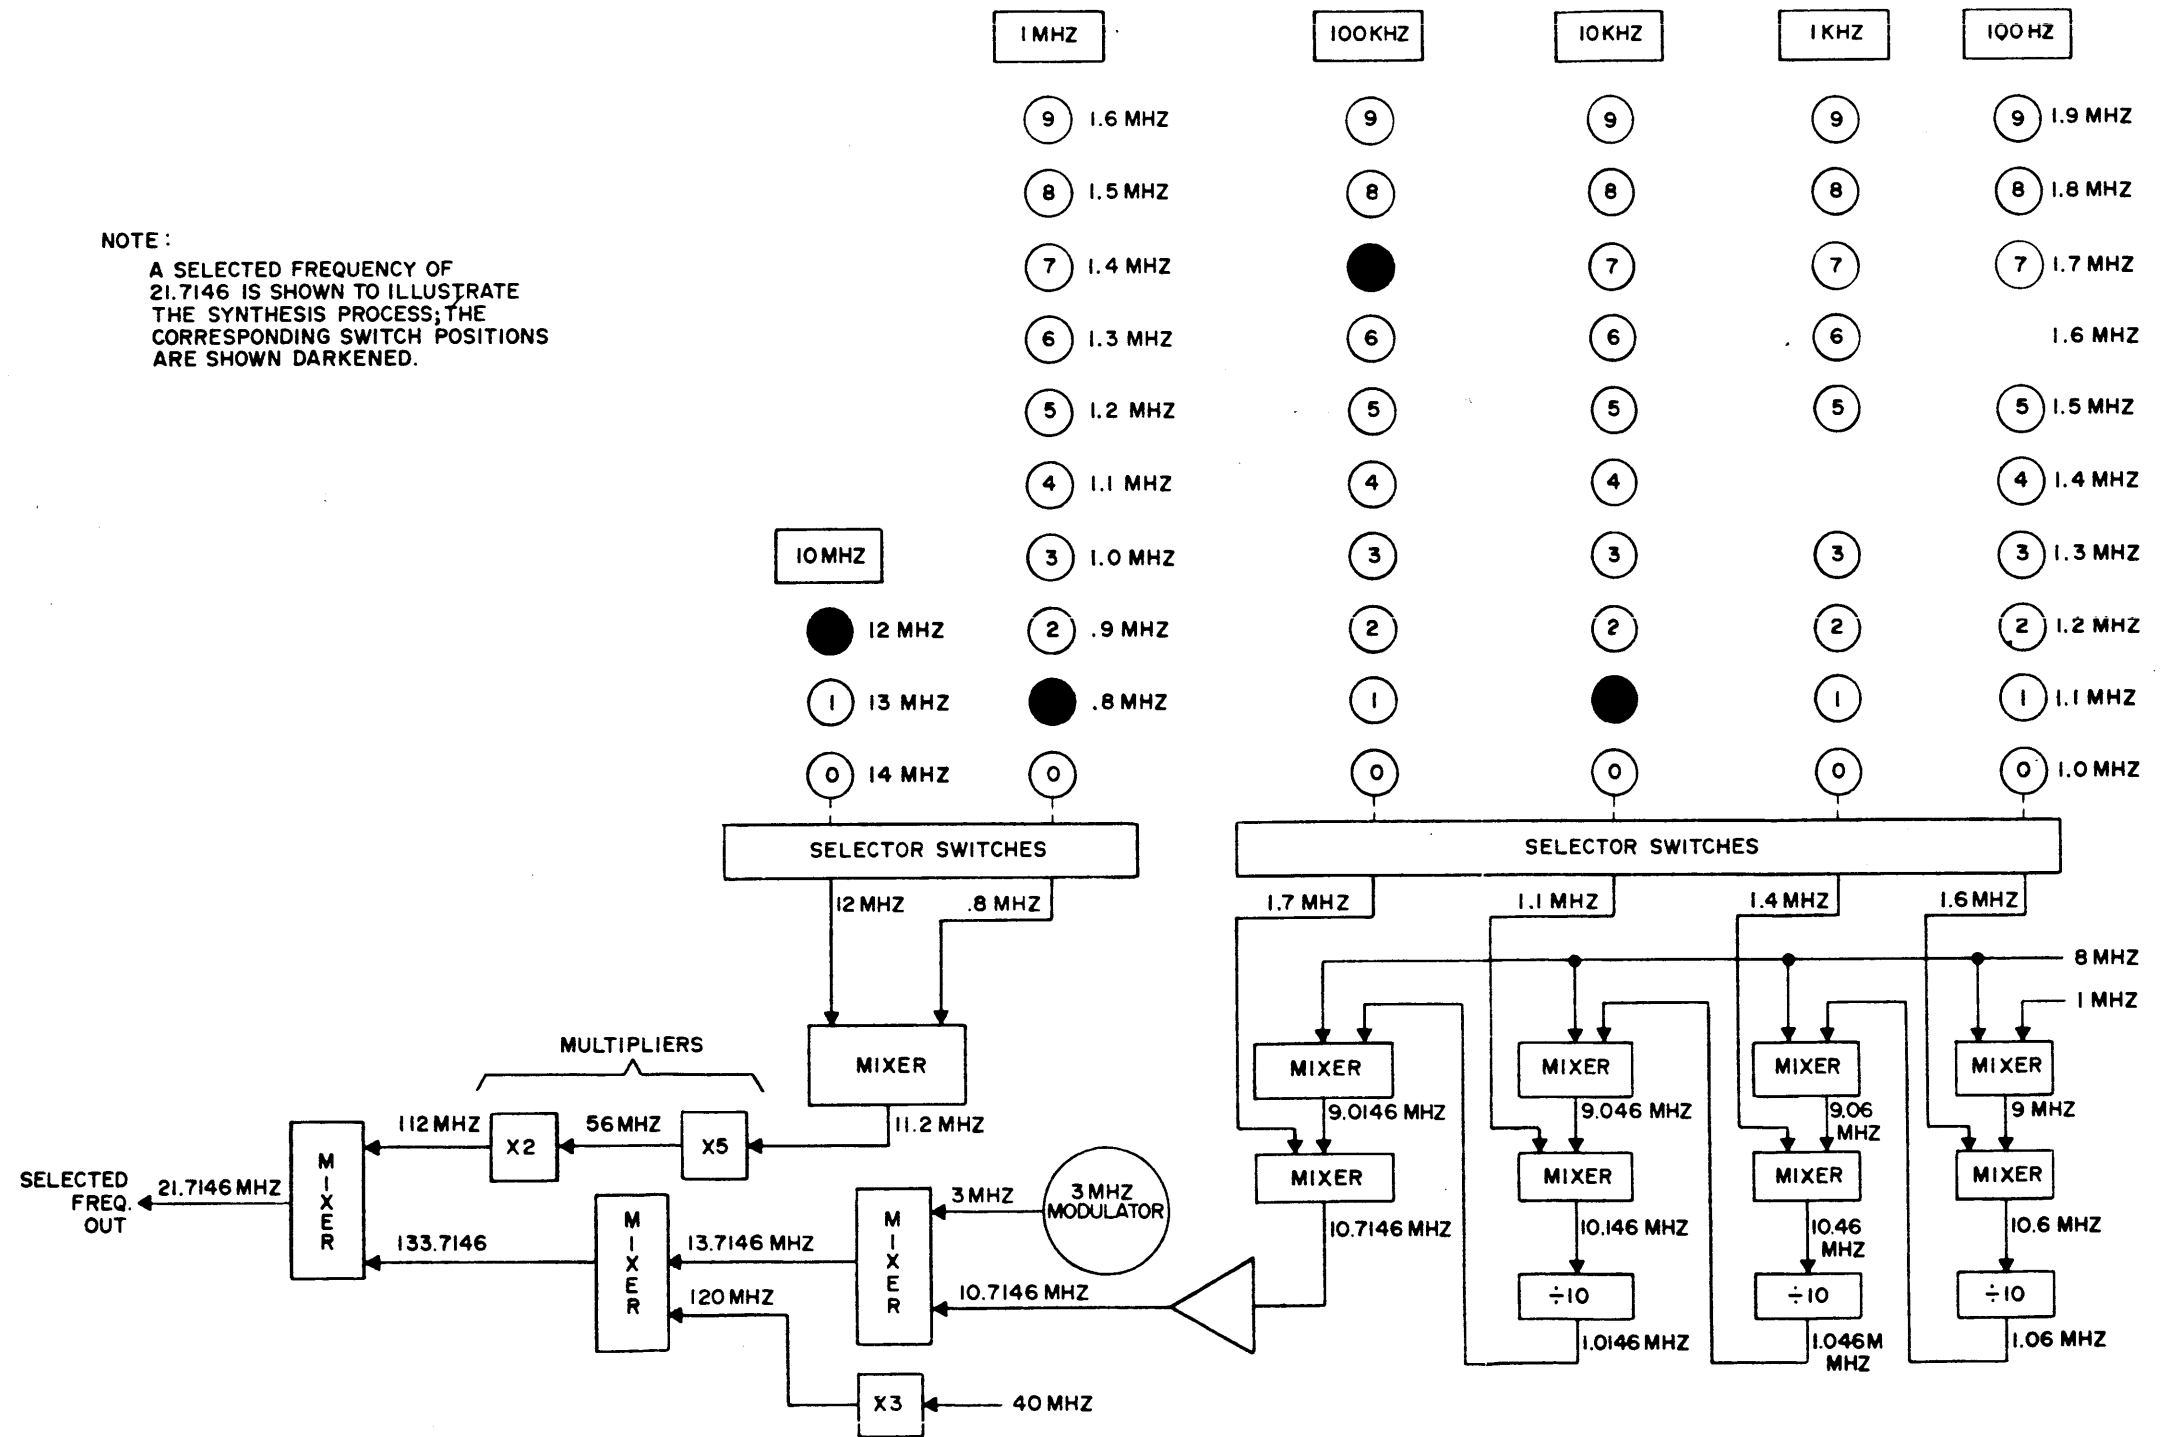

Figure 4-1. Frequency synthesis example
4.2.1 Six front-panel frequency selector switches provide selection of the carrier frequency in 100Hz increments from 1.6 to 29.9999MHz. The synthesizer uses a precision 1MHz signal from which are developed other basic signal frequencies, which in turn are used to synthesize the RF carrier output. The basic signal frequencies are applied to mixer-divider and mixer-multiplier circuits to derive discrete RF frequencies. A typical frequency synthesis is shown in Figure 4-1 to illustrate the synthesis process. Figure 4-1 illustrates a selected frequency of 21.7146MHz. The appropriate switch positions are shown darkened on the diagram. The basic 8MHz signal is mixed with the basic 1MHz signal to produce 9MHz. This is then mixed with the 100Hz switch-selected 1.6MHz signal to produce 10.6MHz which, when divided by 10, produces 1.06MHz. The "6" is the least significant digit of the desired frequency. The 1.06MHz frequency is then mixed with the basic 8MHz signal to produce 9.06MHz. This is mixed with the 1KHz switch-selected 1.4KHz signal to produce 10.46MHz which, when divided by 10, produces 1.046MHz. The "4" is the next significant digit of the desired frequency. The 1.046MHz frequency is then mixed with the basic 8MHz signal to produce 9.046MHz. This is mixed with the 10KHz switch-selected 1.1MHz signal to produce 10.146MHz which, when divided by 10, produces a 1.0146MHz signal. The "1" is the next significant figure of the desired frequency. The 1.0146MHz is then mixed with the basic 8MHz signal to produce 9.0146MHz. This is mixed with the 100KHz switch-selected 1.7MHz signal to produce a 10.7146MHz signal.
modulation frequency to produce a 13.7146MHz frequency. This 3MHz frequency is varied by the selected modulation to provide carrier frequency deviations in response to the selected modulation mode. However, for this discussion only, the center 3MHz frequency is described. The 13.7146MHz frequency is mixed with a 120MHz basic signal derived by multiplying the 40MHz basic signal by three. The output of the mixer will then be 133.7146MHz. The 1MHz switch-selected 0.8MHz signal is mixed with the 10MHz switch-selected 12MHz signal to produce an 11.2MHz frequency. This is first multiplied by five to produce 56MHz, and then multiplied by two to produce 112MHz. The 112MHz frequency is then mixed with the 133.7146MHz frequency to produce the final 21.7146MHz carrier signal. The 10MHz selector switch selects a 14MHz basic signal for the "0" digit position which is used to derive the 01MHz to 10MHz range of frequencies. A 13MHz basic signal is selected in the "1" digit position of the 10MHz selector to derive the 11MHz to 20MHz range of frequencies. The 12MHz basic signal is selected in the "2" digit position which is used to derive the 21MHz to 29MHz range of frequencies. The derivation of each of these discrete frequencies is listed in Table 4-1. The derivation of the 21MHz frequency is illustrated in Figure 4-1.